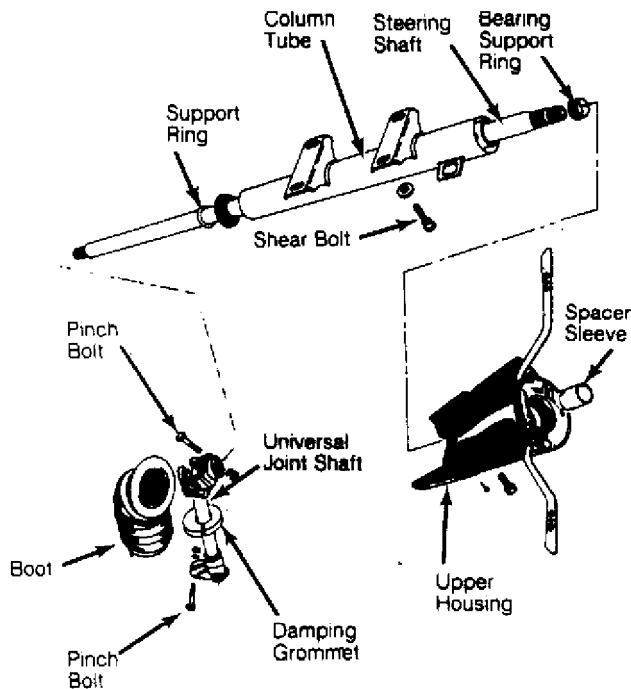

Fig. 2: Identifying Steering Column Components
**NOTE:** Refer to illustration for exploded view of steering column components. See Fig. 2.
To install, reverse removal procedure. Place wheels in straight-ahead position. Tighten pinch bolt. Install spacer. See Fig. 2. Install combination switch and steering wheel. Adjust brake pedal and clutch pedal height.
1) Remove pinch bolt that connects lower end of "U" joint shaft to steering gear pinion shaft. See Fig. 2. Separate manual gearshift linkage from steering box. Remove steering gear retaining nuts.